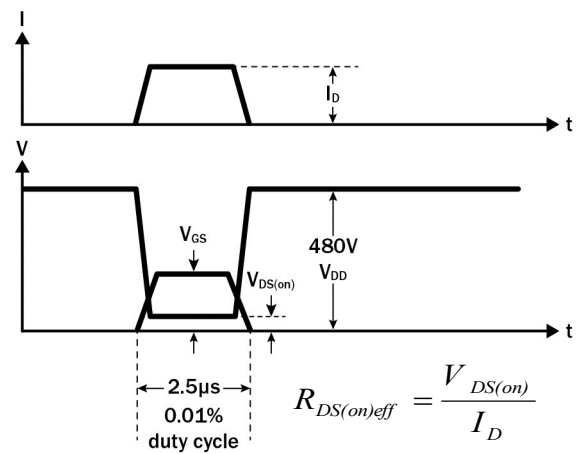

Figure 19. Dynamic $R_{DS(on)eff}$ Waveform
- Dynamic on-resistance; see Figures 19 and 20 for test circuit and conditions